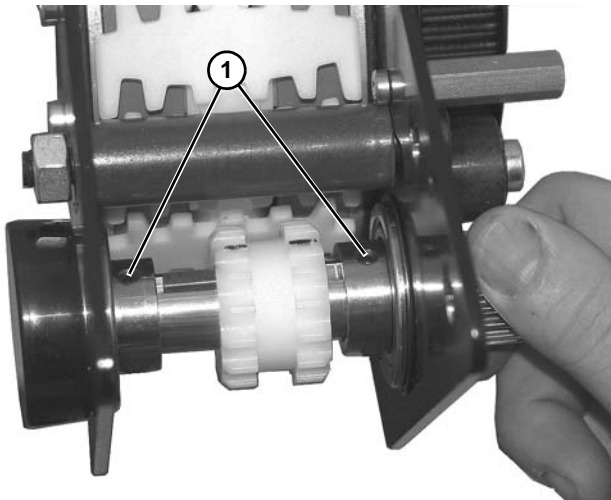

Figure 158
2. Secure drive shaft onto bearings with two set screws (**Figure 158, item 1**).